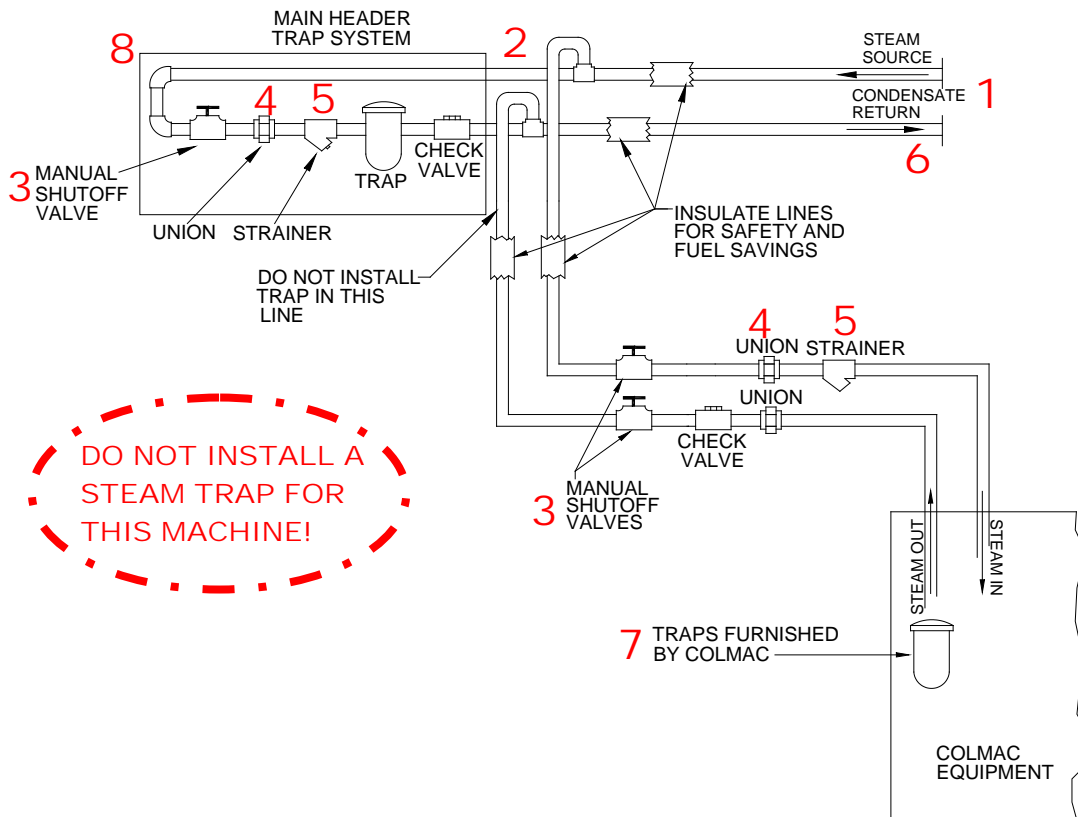

Figure 5
The steam and return system connections are very important. Poor steam quality or incorrect connections directly affect its performance. (Reference Figure 5)
2. **Supply Line:** Connect the steam line to the top of the steam headers as shown in Figure 5 to insure a clean, dry steam supply.
3. **Shut-off valves** installed ahead of the union and strainer on the "steam-in" and "steam-out" lines and between the union and return header on the "Main Header Trap System" (8), will simplify shut-off for repair and maintenance. "Ball" or "Gate" type valves are recommended for maximum flow.